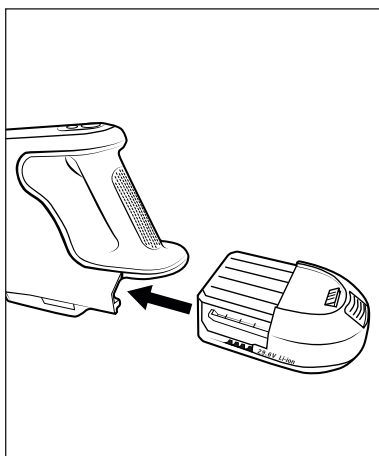

Fig. 3
- 3) Push the battery ② into the appliance until it audibly clicks into place (see Fig. 3).